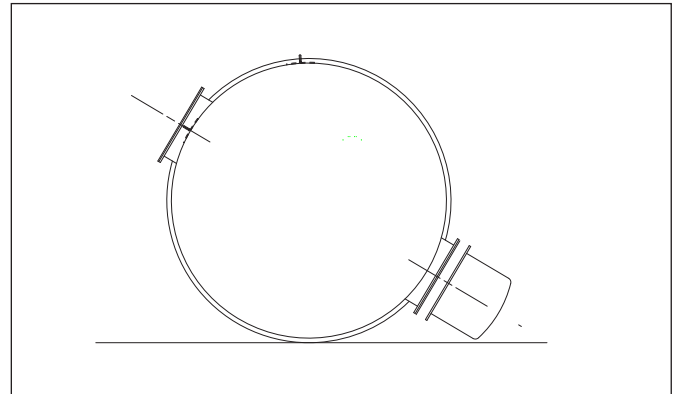

FIGURE 2-1
2.2. Using the lifting lugs situated on the side of the tank, set the tank on the ground so it is in a rotated position. (See *FIGURE 2-1*.)